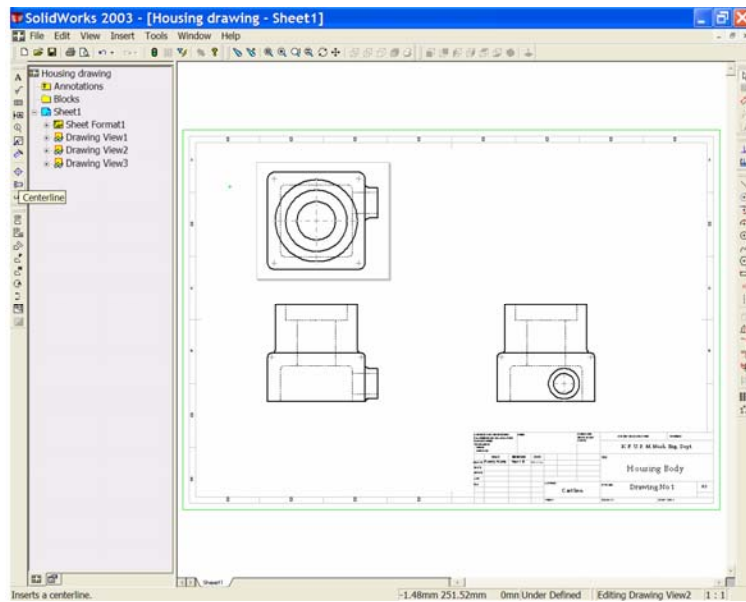

Figure 19
22. To add centre lines to the cylindrical features of the drawing, first select '**Centrelines**' from the '**Annotations Toolbar**'. See Figure 19.